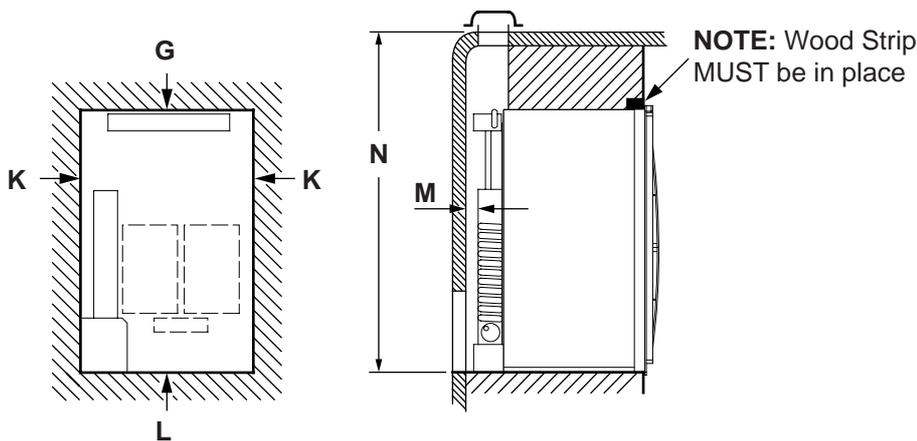

FIG. 10
**NOTE:** A wood strip must be in place across the upper opening of the enclosure. The top frame of the refrigerator will be anchored to the wood strip with screws, see FIG. 10.